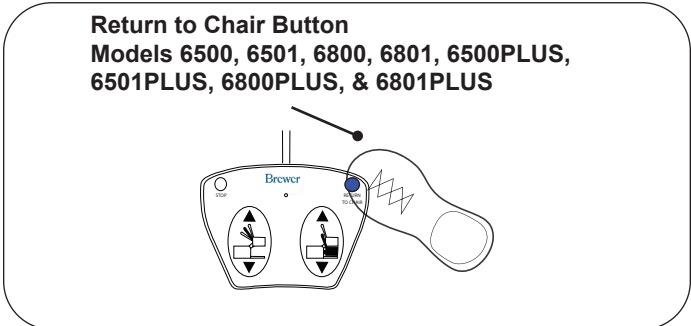

Figure 44. Lowering with Return to Chair
3. Press the blue button to engage the Return to Chair feature (Figure 44).